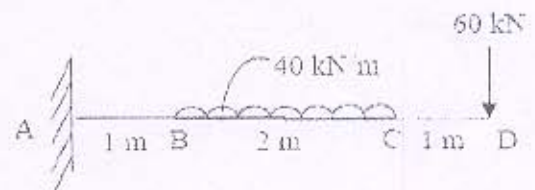

Figure 11
- Draw shear force and bending moment diagrams for the beam shown in Figure 11.